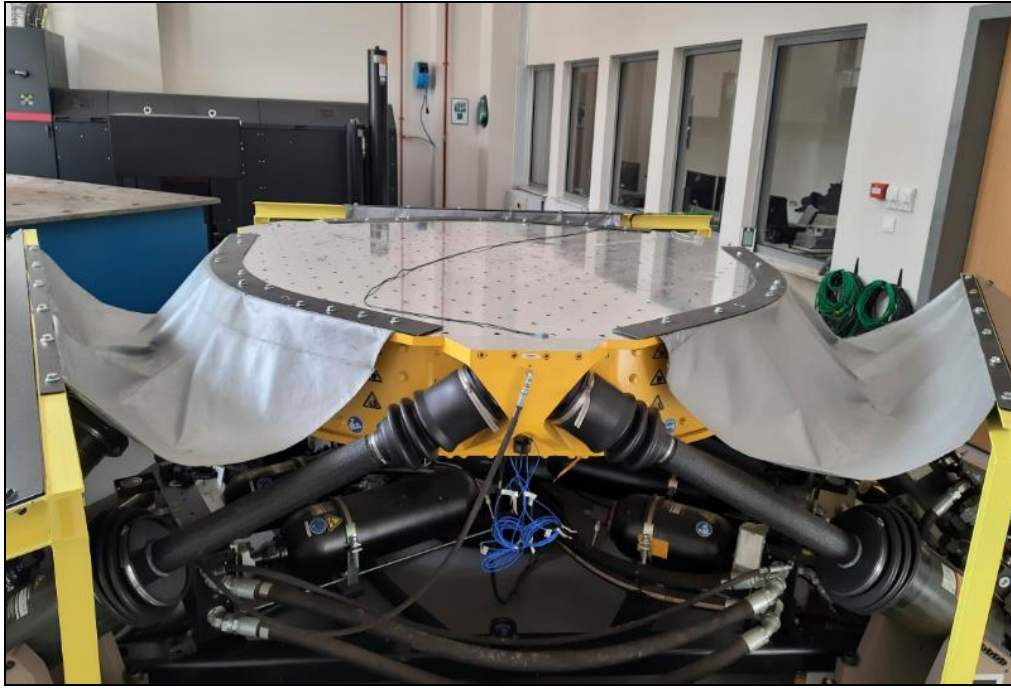

Figure 6. Multi Axial Simulation Table (MAST)
- The test have been performed on MAST system, which is 6 DOF capability (Figure 6).